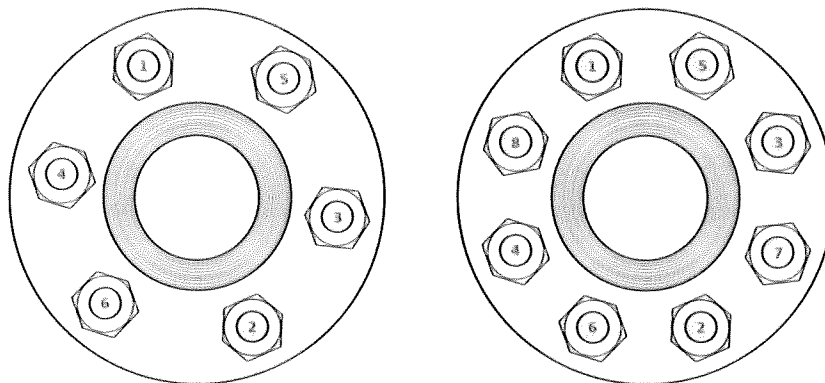

Figure 28 Six Wedge Bolt (Left) and Eight Wedge Bolt (Right) Tightening Patterns
10. Secure the motor plate with the bolts, using the appropriate pattern (Refer to Figure 28) to evenly secure motor.